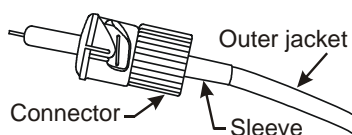

Figure 28. Install Crimp Sleeve
6. **Install Crimp Sleeve**—Slip the cable (crimp) sleeve over the outer jacket and the connector body to capture the strengthening yarn between the body and sleeve (Figure 28).